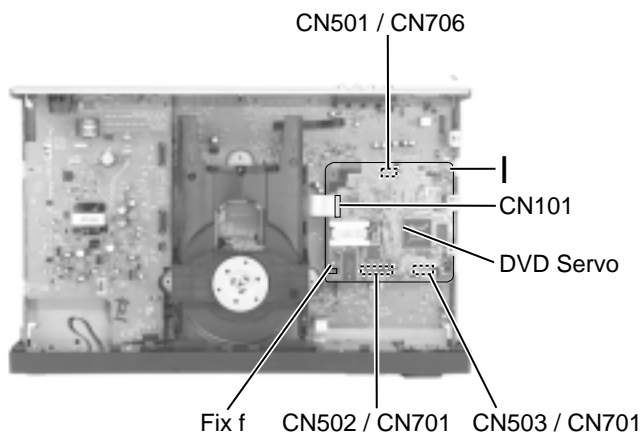

Fig.17
■ Removing the DVD Servo (See Fig.17 and 18)